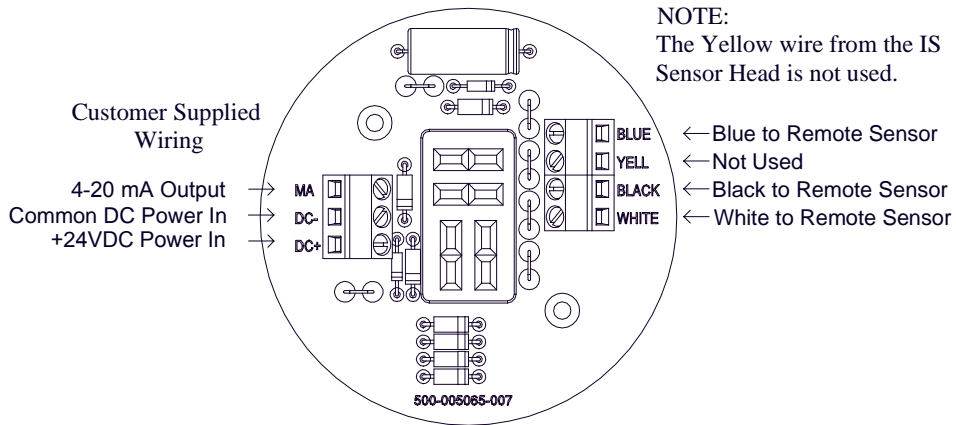

Figure 8 Sensor wiring
- b. Remove the junction box cover and un-plug the control circuit by grasping the two thumb screws and pulling outward. Observing correct polarity, connect the loop power field wiring to the terminals labeled “+” and “-” 4-20 mA. (Figure 8) Reinstall cover.